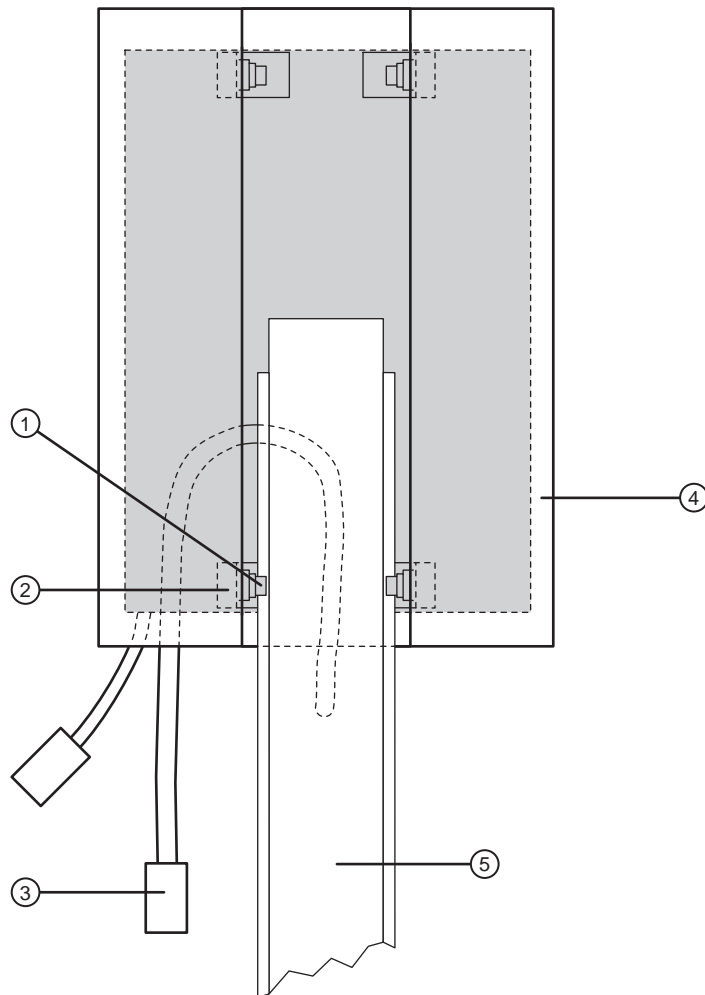

Figure 1-9 Routing the power cable.
①—Head. ②—Rear mounting bracket. ③—Roller. ④—Power cable/connector.
5. While holding the head in this position, work the power cable at the bottom of the boom arm past the first set of guide roller mounting blocks on the head. Refer to Figure 1-9.
- ①—Roller. ②—Rear mounting bracket. ③—Power cable/connector. ④—Head.
⑤—Crane boom.
6. Loop the cable around the guide roller mounting block on the left side as viewed from above. Refer to Figure 1-9.
In doing so, the cable should form a loop and exit at the power connector end (rear) of the head. Refer to Figure 1-9.
8. Verify that the cable is properly routed. Refer to Figure 1-9.
9. Connect the power cables from the boom and from the head (see Figure 1-9).
8. Using a phillips head screwdriver, remove the two (2) screws that attach the switch to the block. Figure 1-9.